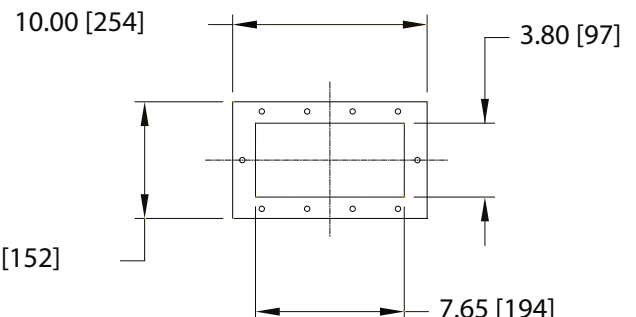

Figure 2 – Gland Plate Dimensional Drawing (inches and millimeters)
- Remove gland plates and drill desired conduit entries in accordance with the spacing chart for Myers™ hubs (see Figure 3) and the gland plate dimensional drawing (see Figure 2).